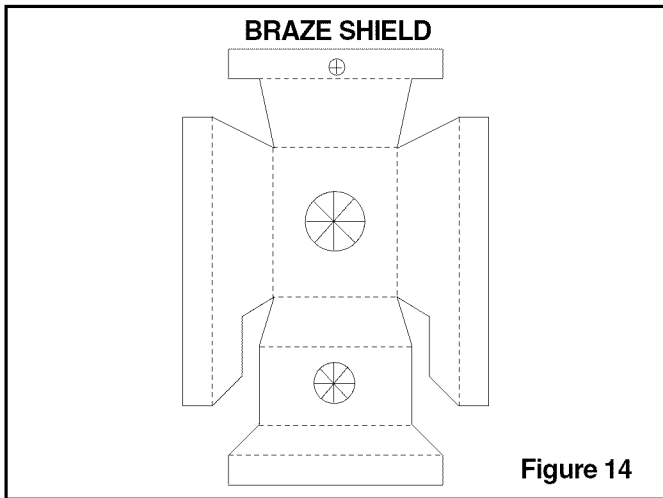

Figure 14
**NOTE:** A brazing shield is provided in the information pack accompanying this unit. This shield fits over the refrigerant fittings while brazing. Wet the shield before brazing. See Figure 14.